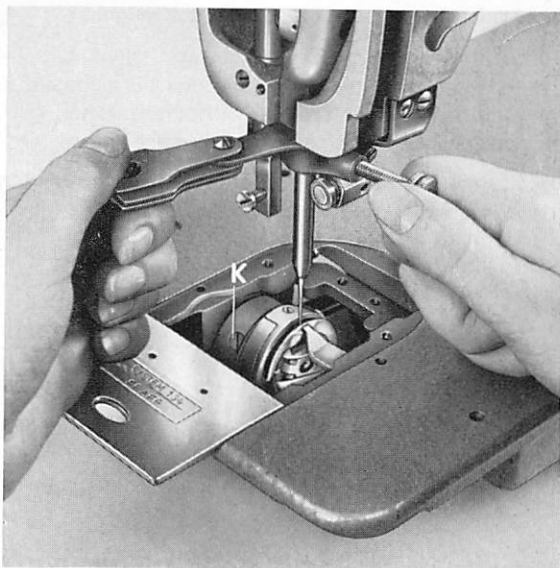

Fig. 29
Begin by removing the needle plate and setting lever H in notch II and knob G on "0" (Fig. 20). Rotate the balance wheel until the needle has reached the lowest point of its stroke. Slip both the needle rise gauge (5/64", or 2.0 mm, thick and the clamp onto the needle bar, push the clamp up against the gauge until the latter contacts the needle bar frame, and tighten the clamp screw securely (Fig. 29).
Then pull out the gauge and cautiously turn the balance wheel until the clamp contacts the needle bar frame (Fig. 30). Loosen set screws K and T (Figs. 29 and 30, respectively) and rotate the sewing hook on its shaft until its point is opposite the center line of the needle.
2. Loosen hook set screws **K** and **T** (Figs. 29 and 30).